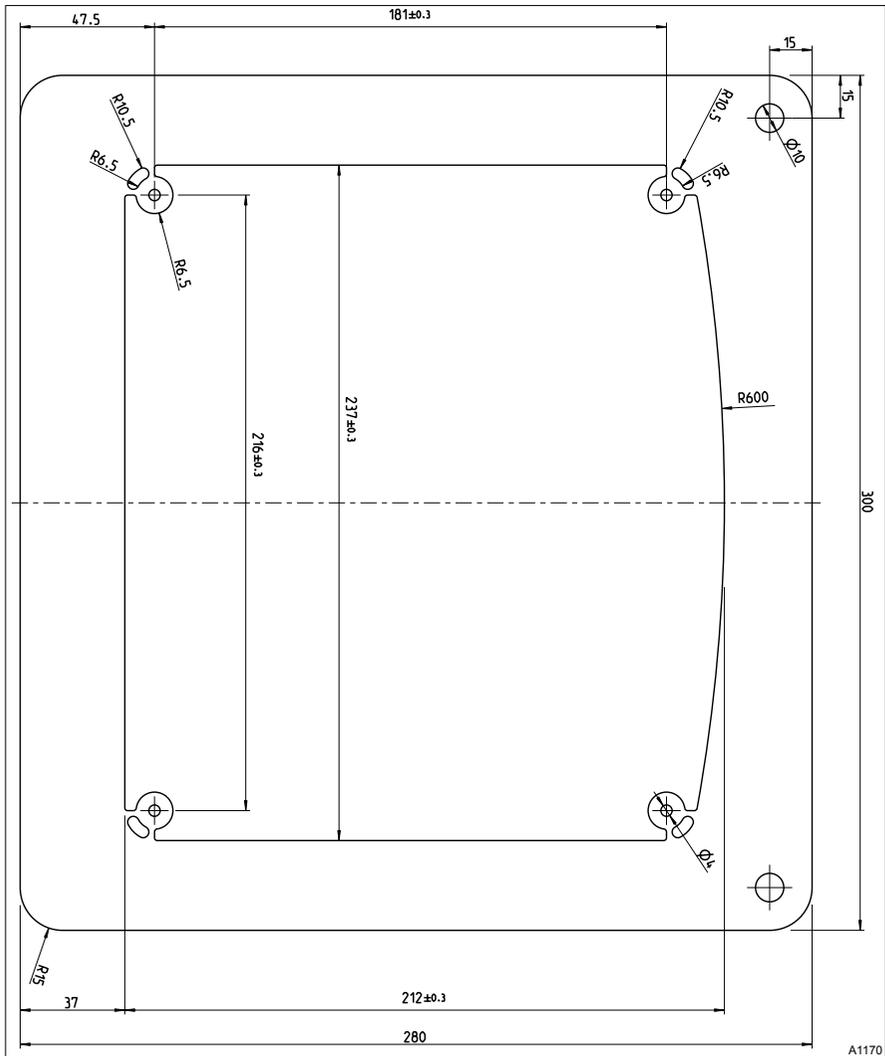

Fig. 11: The drawing is not true to scale and will not, as part of these operating instructions, be updated. The drawing is for information only.
- Use the dimensions according to Fig. 11 and mark on the control panel